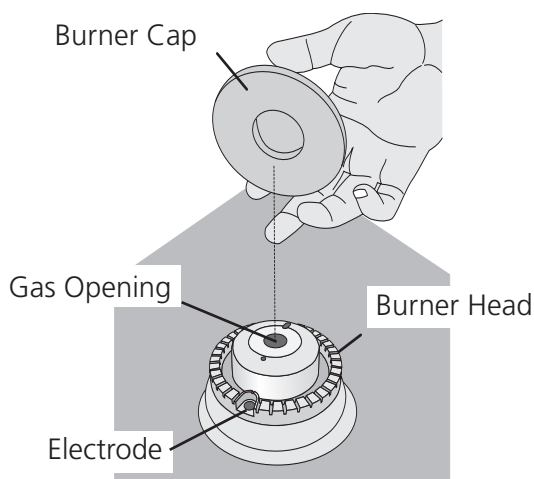

Figure 9
B. **Regular Burners:** Burner heads and burner caps are already on the surface. Remove all tapes from burner caps and verify if they are correctly placed on the burner heads (see Figure 9).